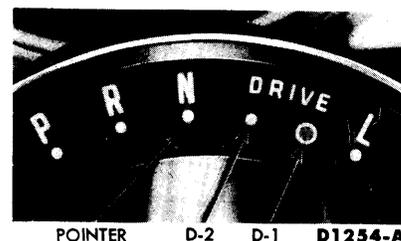

FIG. 2—Shift Selector Positions
2. Position the manual selector lever so that the pointer is down against the steering column stop in the D1 position. **The large green dot on the shift selector indicator is the D1 position (Fig. 2).**